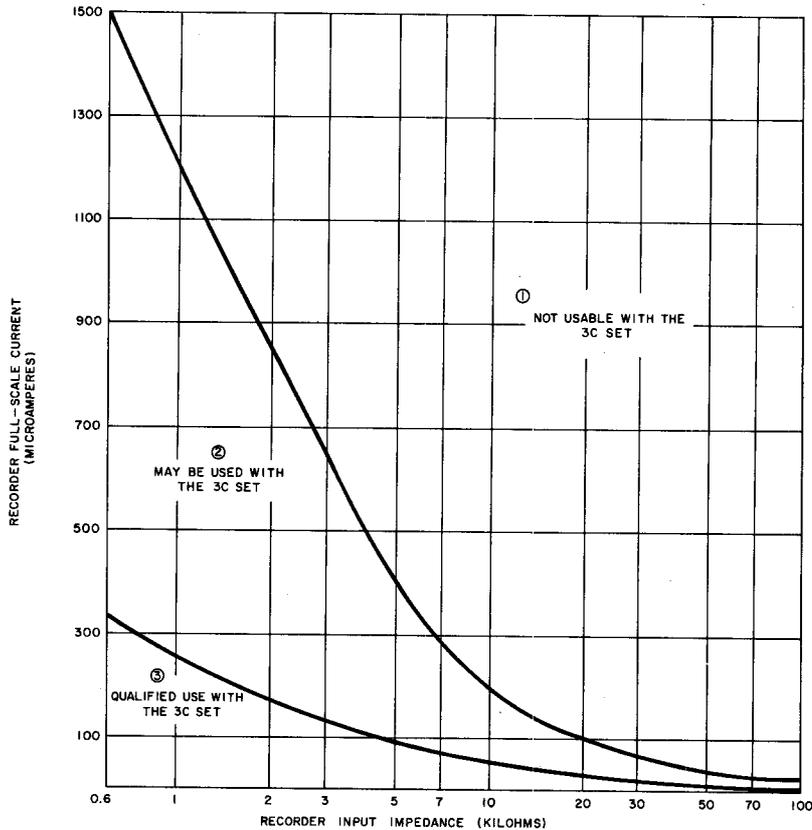
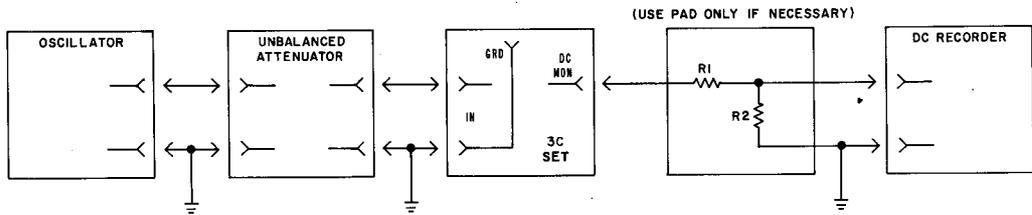

Fig. 12—Use of Recorder With 3C Noise Measuring Set
Fig. 13—Calibration Circuit for DC Recorders
9.09 The 3C NM set may be used to drive many different types of dc recorders. Figure 12
9.10 Knowing the input impedance and full scale current of a recorder, a point may be determined on Fig. 12 which will fall within one of the areas. For instance, suppose the recorder that is available has an input impedance of 3000 ohms and a full-scale current of 500 microamperes. The point determined by these two numbers falls in region 2, which indicates that this recorder may be used with the 3C set (see Fig. 12). If the point had fallen in region 1, the set would not be able to drive the recorder to full scale. If the point had fallen in region 3, a suitable pad could be designed which would make the recorder usable. For example, suppose the recorder has an input impedance of 10,000 ohms and a full-scale sensitivity of 20 microamperes. If R_2 (Fig. 13) is chosen to be 500 ohms, the apparent input impedance is essentially 500 ohms and the full-scale sensitivity is decreased by a factor of 21 (10,500/500), making the full-scale current 420 microamperes. Then choose R_1 to be approximately 3500 ohms; in this case, the combination looks like a recorder with a 4000-ohm input impedance and a 420-microampere sensitivity which now falls in region 2 of Fig. 12.
9.11 To calibrate the recorder, use the equipment setup shown in Fig. 13. (Do not disturb any necessary pad arrangement.) Make no connection to the DC MON jack. Follow the procedure outlined below.